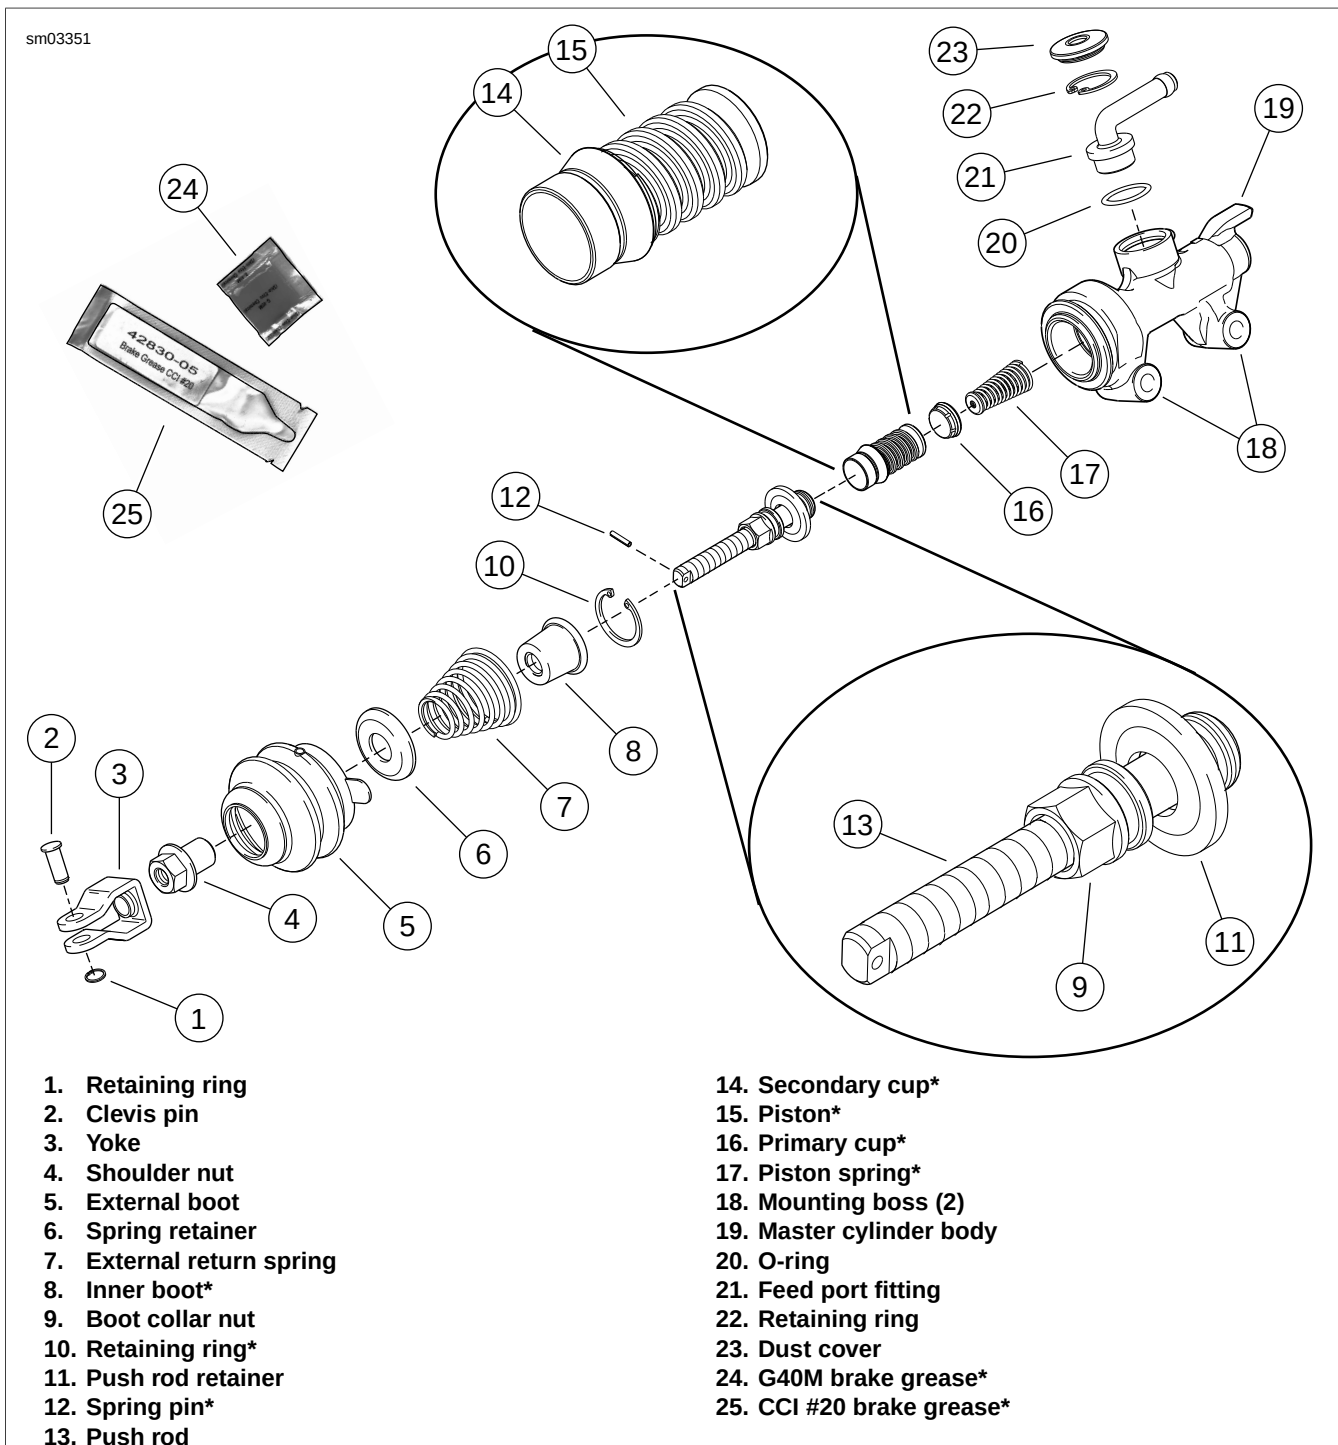
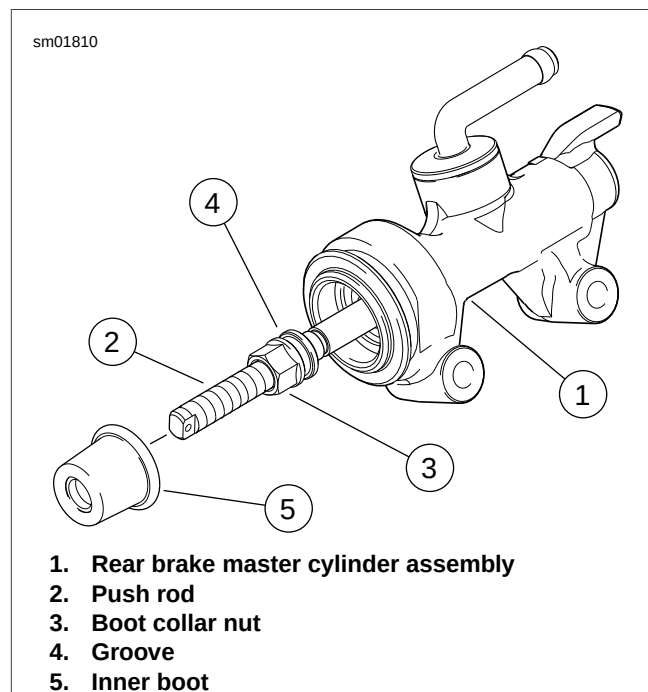

Figure 2-105. Rear Brake Master Cylinder (*Provided in Service Parts Kit)
Figure 2-108. Lubricating and Installing Inner Boot
- See Figure 2-105. Clamp rear brake master cylinder (19) in a vise by its mounting bosses (18) only. Use brass or aluminum jaw covers or other protective device on vise jaws to prevent damage to master cylinder.
- See Figure 2-105. Clamp rear brake master cylinder (19) in a vise with yoke (3) pointing up.
- Remove external boot (5). Remove spring pin (12) from end of push rod (13). Discard spring pin.
- See Figure 2-105. Press down on spring retainer (6) to compress external return spring (7). While spring is compressed, remove shoulder nut from push rod. Carefully release pressure on external return spring. Remove spring retainer and external return spring.
- Remove and discard inner boot (8).
1. See Figure 2-105. Thoroughly clean master cylinder body (19) and all brake system components. Blow out drilled
1. See Figure 2-105. Coat **new** o-ring (20) with HARLEY-DAVIDSON D.O.T. 4 BRAKE FLUID. Install o-ring and feed port fitting (21) into feed port on top of master cylinder (19). Secure with **new** retaining ring (22). Verify that retaining ring is fully seated in groove.
See Figure 2-105. Clamp rear brake master cylinder (19) in a vise by its mounting bosses (18) only. Use brass jaw covers or other protective device on vise jaws to prevent damage to master cylinder.
8. See Figure 2-105. Temporarily thread shoulder nut (4) onto push rod (13) several turns to protect push rod threads. Press down on push rod to compress piston spring (17). Slide push rod retainer (11) down into master cylinder bore.
9. Secure push rod assembly with **new** retaining ring (10). Verify that retaining ring is fully seated in groove. Remove shoulder nut from push rod.
10. See Figure 2-108. Apply approximately 0.1 g of G40M BRAKE GREASE around groove (4) in boot collar nut (3). Carefully slide inner boot (5) down onto push rod (2) and into end of master cylinder bore. Press lip of inner boot down around groove in boot collar nut.
11. See Figure 2-105. Install external return spring (7) and spring retainer (6). Thread shoulder nut (4) shoulder-first onto push rod (13), several turns past flats.
12. Thread yoke (3) onto push rod, at least 2-3 turns past flats. Install **new** spring pin (12) into end of push rod.